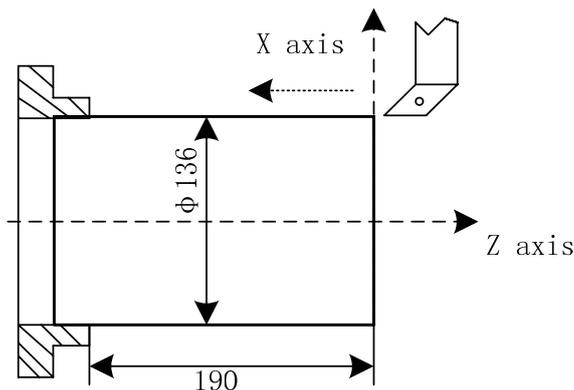

Fig.10-7
- (4) The tool traverses and cuts along the outer circle of the work piece as shown in Fig.10-7;